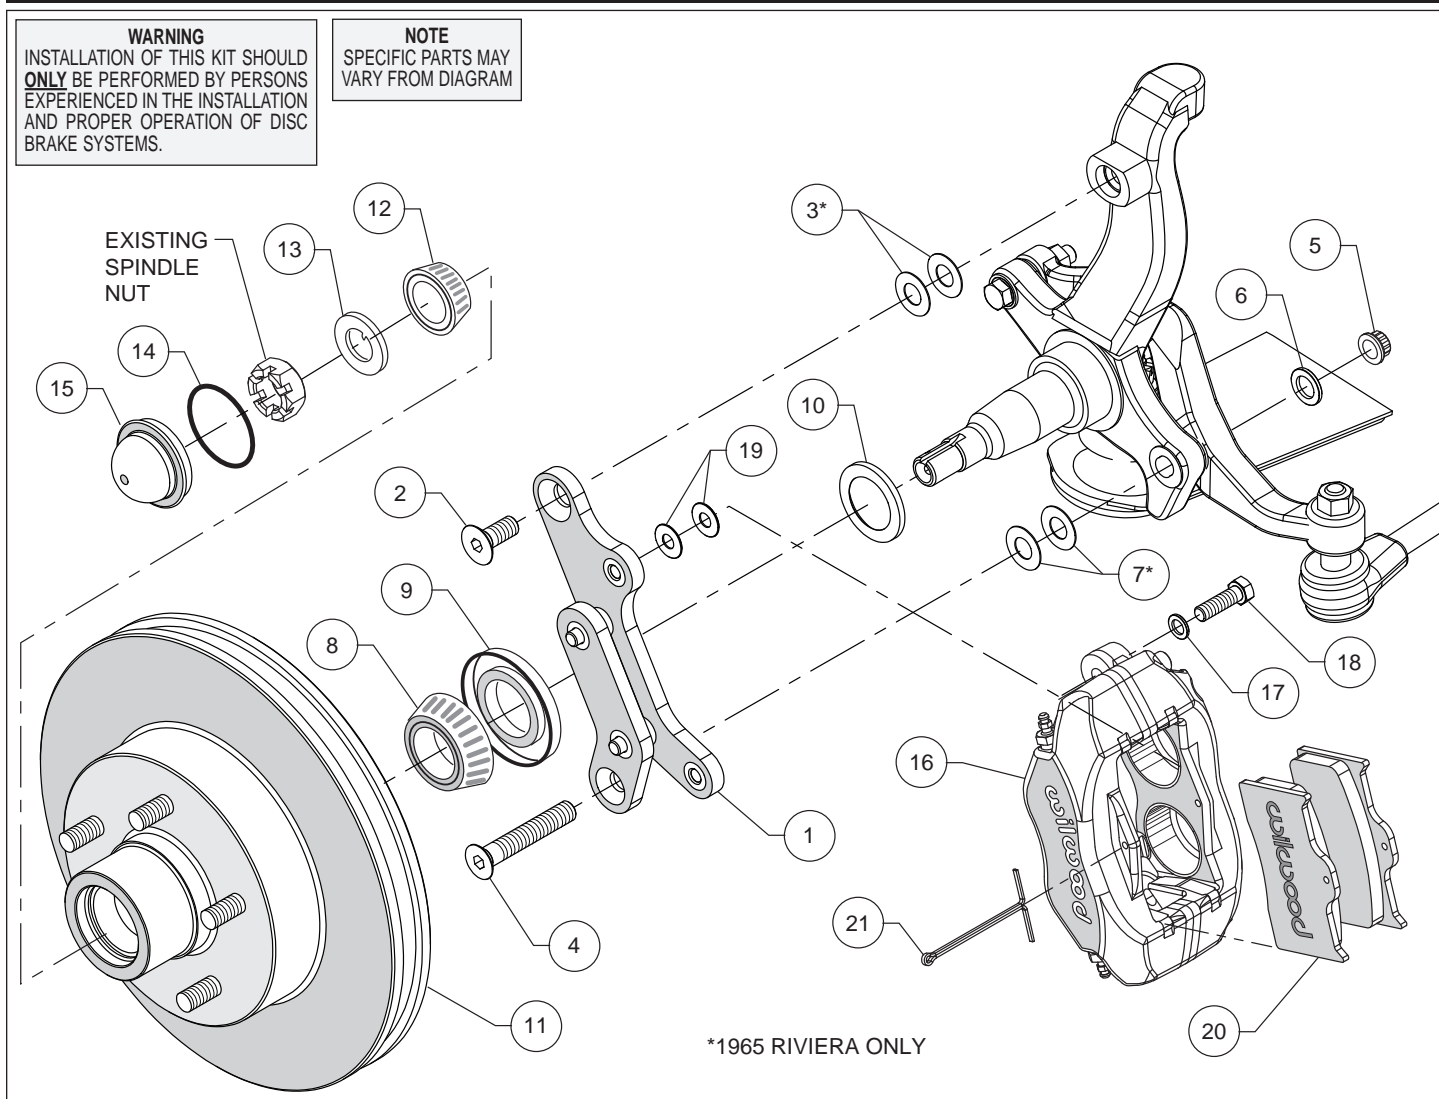
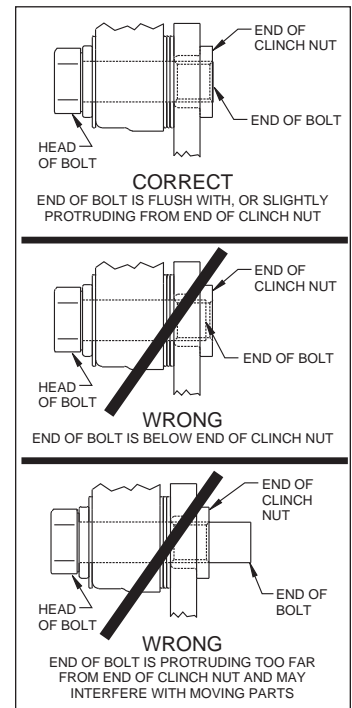

Figure 1. Typical Installation Configuration
Figure 3. Clinch Nut Engagement Diagram
**Assembly Instructions** (numbers in parenthesis refer to the parts list, on the preceding page and Figure 1): **CAUTION:** All mounting bolts must fully engage clinch nuts. Be sure to check that all bolts are either flush or protruding through flanged side of clinch nut after shimming, Figure 3.
- The caliper mounting bracket (1) has been assembled at the factory for alignment purposes. Loosen the two bolts that secure the brackets together so that the bolts are hand tight only, this will enable the bracket assembly to be adjusted to accommodate various spindle tolerances during assembly. Orient the caliper mount bracket as shown in Figure 1, and install using bolts (2 and 4), nuts (5), and washers (6), Figure 1. **NOTE:** Shims (3 and 7) are to be used only on 1965 Riviera applications, Photo 1. Ensure that the flanged heads of the clinch nuts in the bracket are facing outboard. Temporarily tighten the mounting bolts. **NOTE:** The bracket must fit squarely against the mount bosses on the upright. Inspect for interference from casting irregularities, machining ridges, burrs, etc.
- Install the grease seal (9) by pressing into the backside of the hub (11), flush with the end of the hub.
- Slide the bearing spacer (10) onto the spindle. Ensure the chamfered I.D. faces inward, Photo 3. **NOTE:** Do **NOT** use on 1965 Riviera only.
- Pack the small outer bearing cone (12) with high temperature disc brake bearing grease and install into hub (11). Slide the hub/rotor onto the spindle. Secure using spindle washer (13) and OEM spindle nut. Adjust bearings by tightening the wheel bearing nut to 60 **in-lbs.** while turning the hub/rotor assembly. Back off the adjusting nut one slot and install a new cotter pin (not supplied). **The resulting adjustment should be zero (no pre-load to 0.003 inch end play).**
- Install the o-ring (14) onto the dust cap (15). Press the dust cap into the hub (11).
- NOTE:** Please reference the caution statement at the beginning of the assembly instructions. Mount the caliper (16) onto the caliper mounting bracket (1) using bolts (18) and washers (17), as shown in Figure 1. Initially place two .035" thick shims (19) on each bolt between the caliper and the bracket, Photo 4. Temporarily tighten the mounting bolts and view the rotor (11) through the top opening of the caliper. The rotor should be centered in the caliper, Photo 5. If not, adjust by adding or subtracting shims between the bracket and the caliper. Always use the same amount of shims on each of the two mounting bolts. **NOTE:** The end of each bolt must be flush with or slightly protruding from the head of the clinch nut, as shown in Figure 3. If necessary place spare shims between washer (17) and caliper mounting ear to achieve the proper clinch nut engagement. Once the caliper alignment and clinch nut engagement are correct, remove the bolts one at a time, apply red *Loctite*® 271 to bolt threads, and torque to 40 ft-lb.